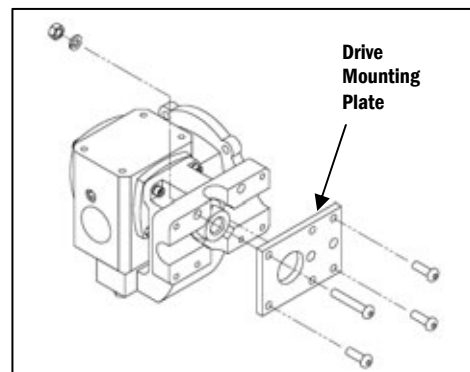

Figure 2
② Prepare the Drive Package
a. Remove the Drive Mounting Plate by first removing four Button Head Screws using a 5/32" Allen Wrench (**Figure 2**). One screw is held in place by a nut. Use a 7/16" Wrench to remove it.